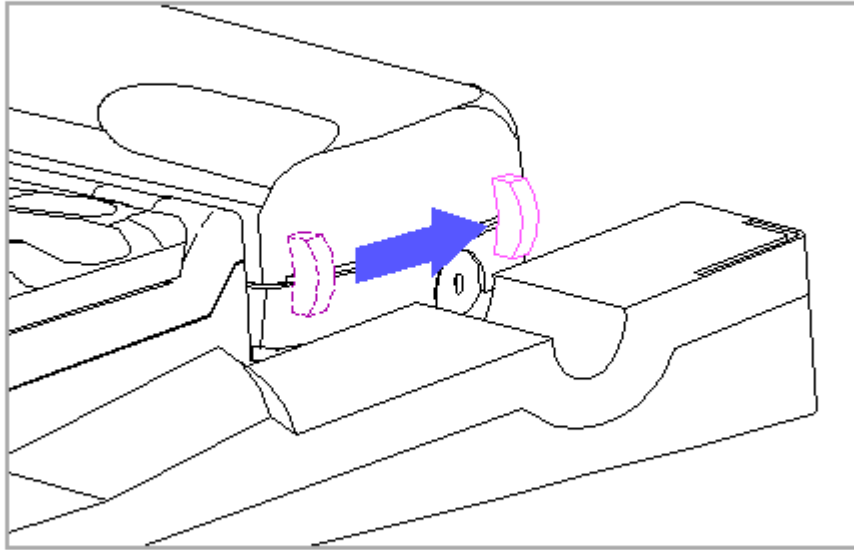

Figure D-16. Pushing the Docking Lever Back
9. Push the lever toward the back of the convenience base (Figure D-16).